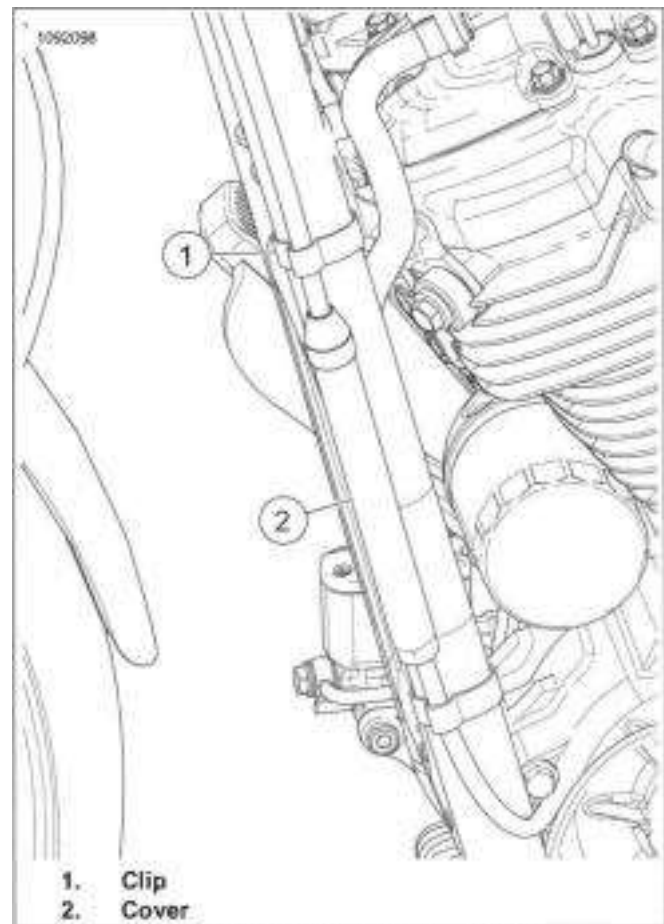
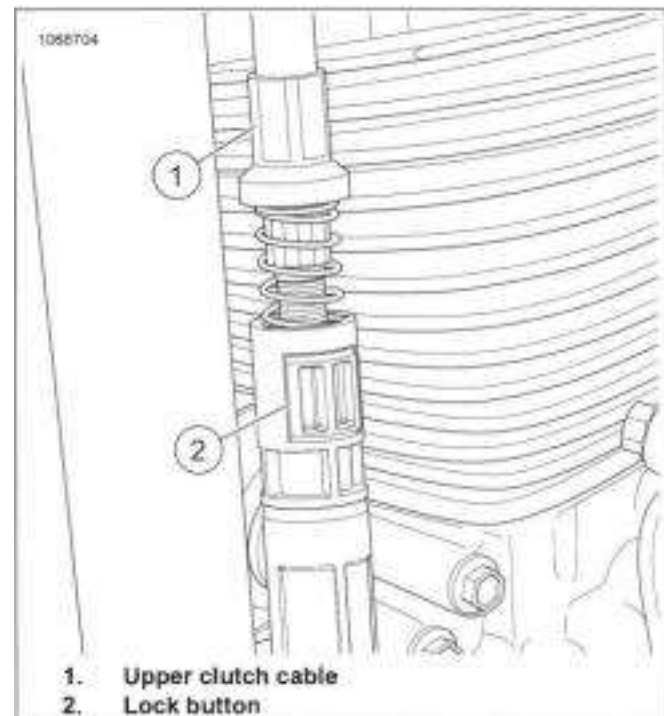

Figure 3-95. Clutch Cover and Clip
Figure 3-96. Lock Button
1. See Figure 3-95. Access two piece clutch cable.
- a. Remove spring clips (1).
- b. Slide cover (2) up.
2. See Figure 3-96. Identify upper clutch cable (1) and red lock button (2).
*Inspect lock button (2). Replace if damaged.*
6. See Figure 3-96. Push in lock button (2).
8. See Figure 3-95. Slide cover (2) down and install spring clips (1).